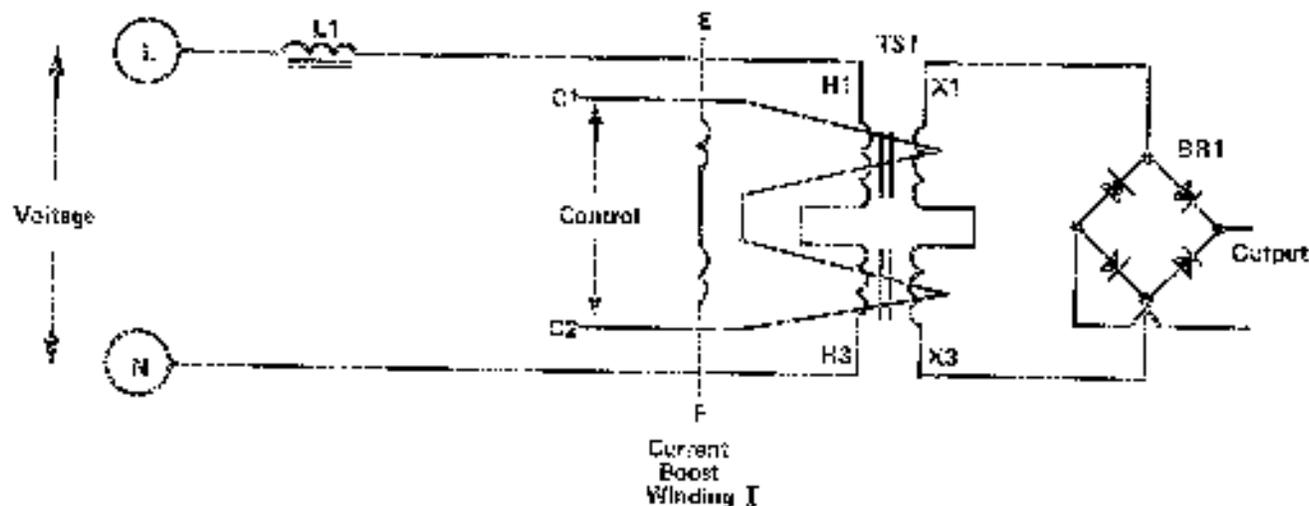

Figure 2 Magnetic Amplifier
Voltage and current are combined magnetically in a saturable transformer, see figure 2 and TS1, figure 5 and 6. The saturable transformer is designed with a center winding (C), (2) to vary the output as an inverse proportional power amplifier, that is, increasing control signal results in reduced output. The saturable transformer requires about 300 ampere turns for control over a 10 to 1 range.